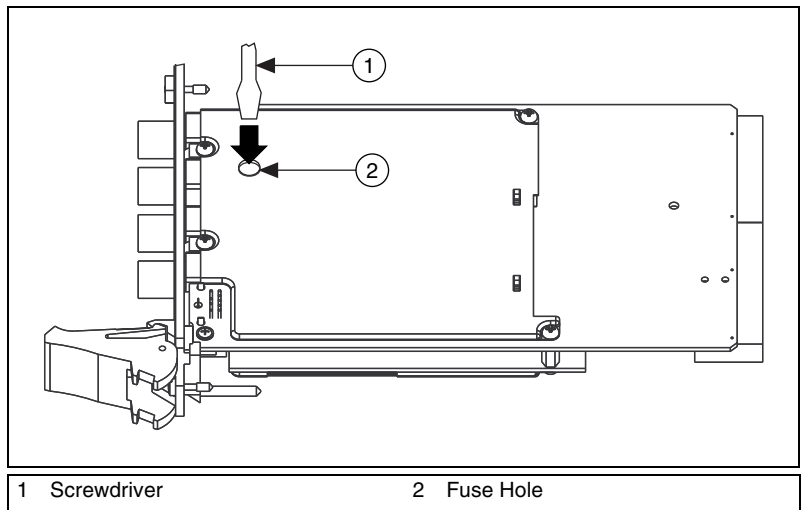

Figure 20. Removing the Fuse from the NI PXI-4070
3. Locate the fuse hole shown in Figure 20.